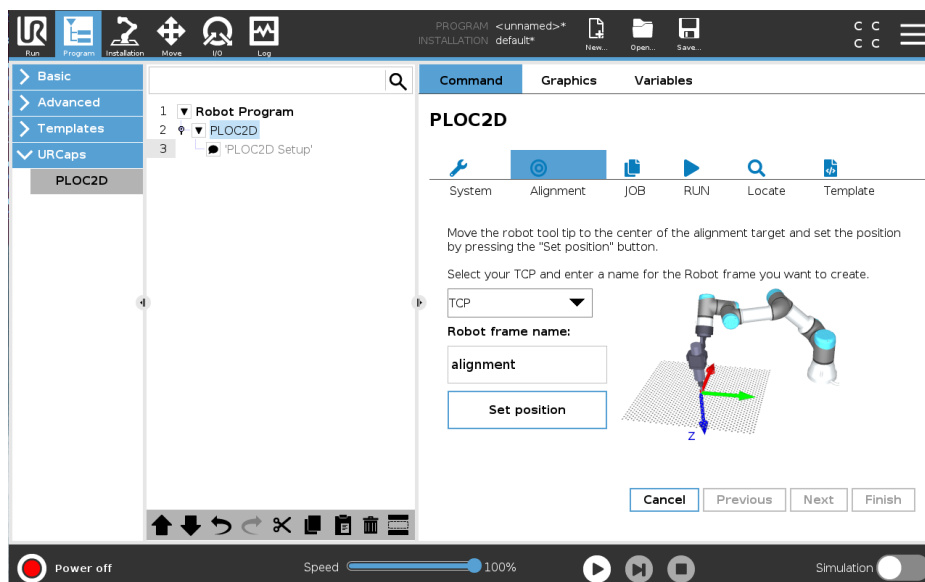

Figure 7: UR Robot user interface, set center position in alignment
2. Select the tool you are using for the alignment in the **TCP** list, see figure 7, page 11.